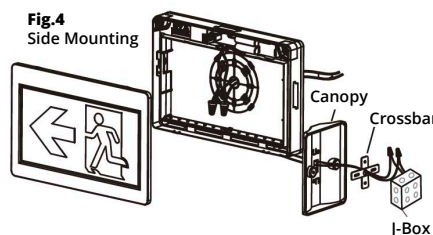
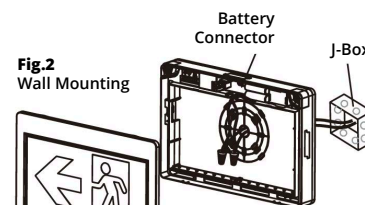
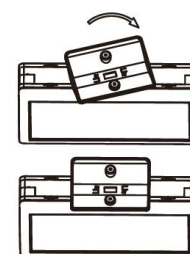

Fig.4
Fig.2
Fig.5
2. Knockout appropriate mount screw hole and cable hole, mount back plate on the wall after feeding building AC Supply Cable into back plate (see Fig.2)
3. For ceiling and side mounting purpose, remove the mounting hole cover on the top or side of the unit (see Fig.2, Fig.4 and Fig.6). Assemble the canopy on the unit (see Fig.5)